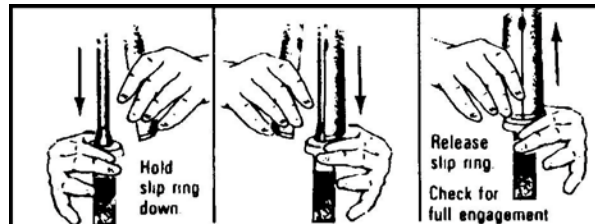

Figure 38. Placing the handguards.
- o. Put the handguards in place (Figure 38).